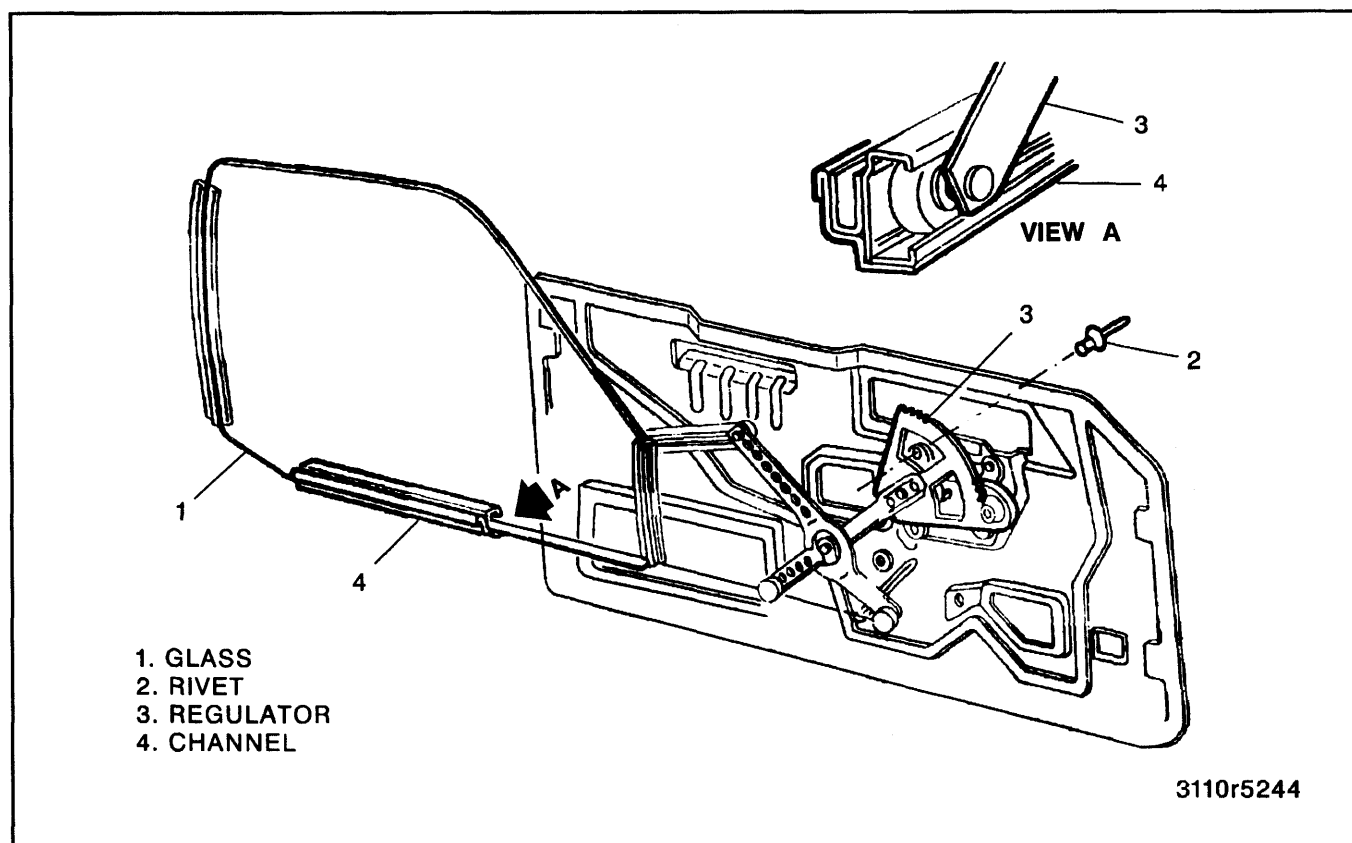

Figure 22—Window Regulator
↔ Remove or Disconnect (Figures 22 and 23)
↔ Install or Connect (Figures 22 and 23)
↔ Install or Connect (Figures 22, 23, and 24)
↔ Remove or Disconnect (Figures 22, 23, and 24)
4. Slide glass from the channel (figures 22 and 23).